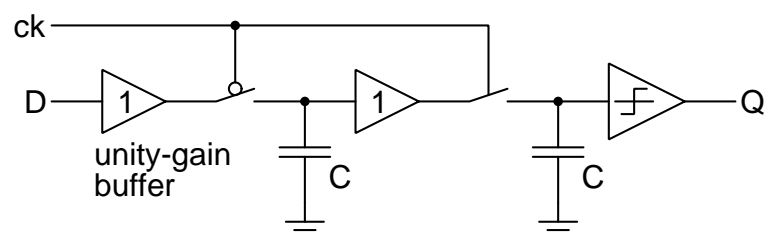

Figure 2: Problem 2
2. Construct the model of a D-flip-flop as shown in Fig. 2. It is a cascade of buffered track-and-hold stages followed